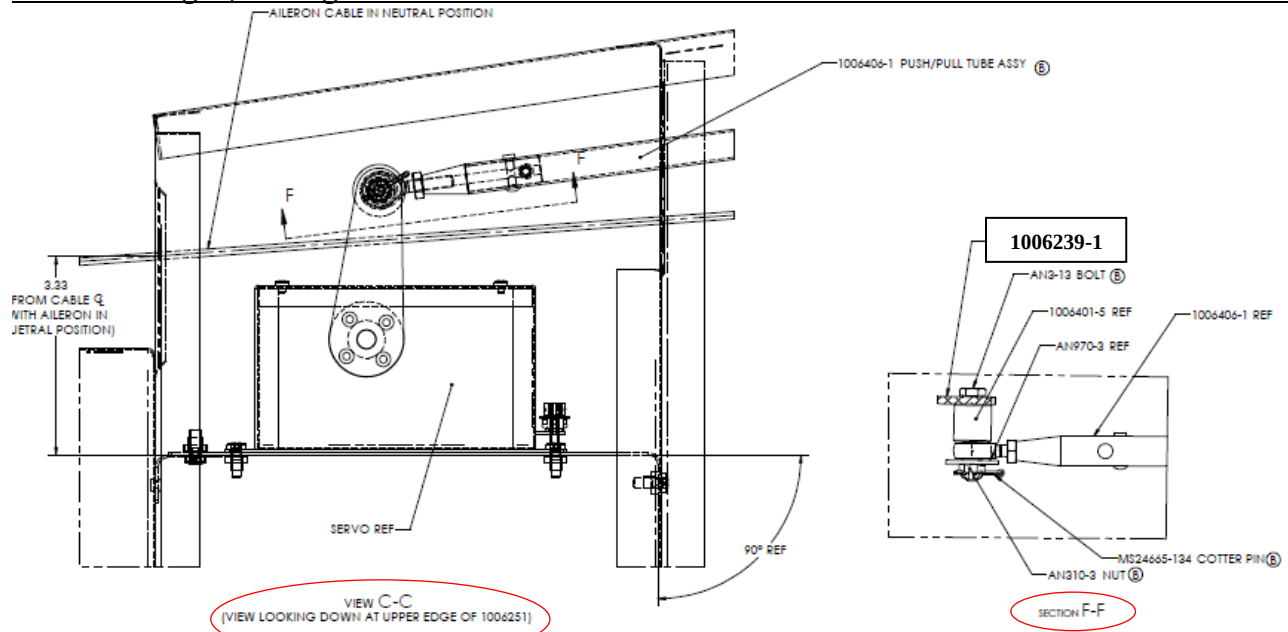

FIGURE 2-13 ROLL SERVO AND PUSH-PULL TUBE INSTALLATION
12. Install the Trio Roll Servo and Push Pull tube assembly. Refer to Figures 2-13, 2-14, 2-15, & 2-16.
15. With the ailerons locked into the neutral position the servo arm must face forward towards the rear wing spar web. Refer to Figure 2-13.
21. To Exit the Maintenance Setting screens, press and hold the Encoder Knob for three (3) seconds or turn off the autopilot.